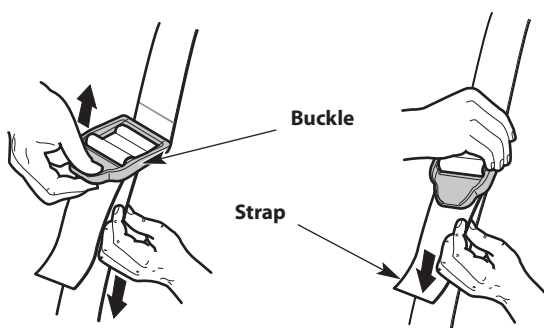

Fig. 8
4. Adjust the shoulder strap to fit the operator (Fig. 8). Pull the buckle up to loosen the shoulder strap. Pull the strap down to tighten the shoulder strap.